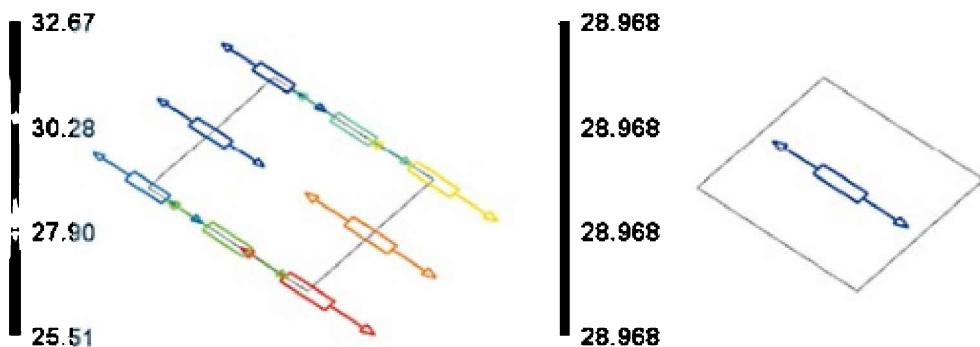

Figure 5.21. Displaying results for a single element with a tensor.
- You can use the *Draw Marks at* box to select the location of result display objects (cubes, spheres, tensors). The following locations are available: *Elements*, *Nodes*, (Figure 5.21, A, B).